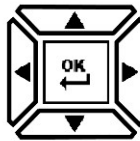

Fig. 4-3 Navigation Pad
There are five (5) buttons arranged in a square that make up the Navigation pad, as shown in **Fig. 4-3**.